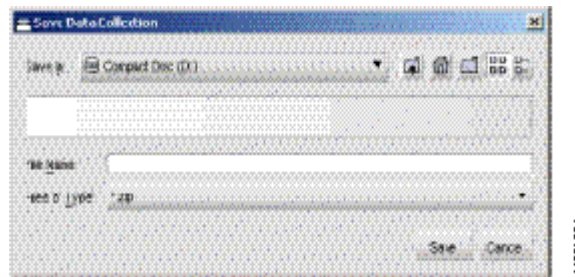

Figure 4-16 Save Data Collection Dialog Box
1. Select *Data Collection* from the *Maintenance* menu (*Maintenance>Data Collection*). The *Save Data Collection* dialog box appears (Figure 4-16).